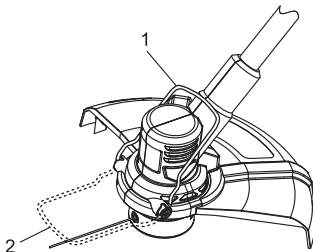

Fig. 6
To position the trimming guide (1), simply pull it down to its horizontal position (2) (Fig.6). When the trimming guide is not being used, it should be placed in its upright position.